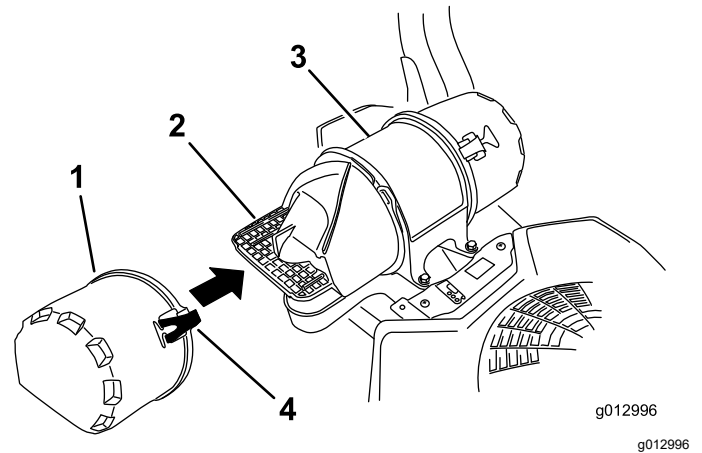

Figure 59
3. Release the latches on the air cleaner and pull the air-inlet cover off the air-cleaner body (Figure 59).
5. Install the air-inlet cover and secure it with the latches (Figure 59).